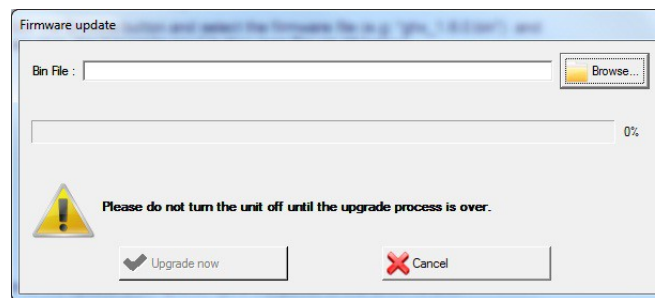

Figure 24: Firmware Update - Browse Window
- Click the Browse button and select the firmware file (e.g: “ghx_1.6.0.bin”). Then click the “Upgrade now” button (see Figure 24).